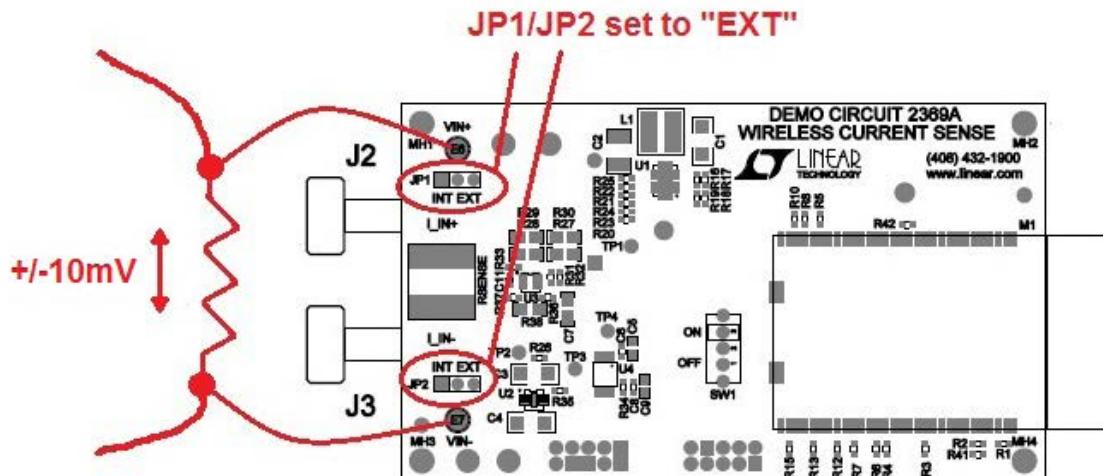

Figure 2. DC2369A Connections and Jumpers for External Sense Resistor
- Alternatively, DC2369A can be used to measure the voltage across an external sense resistor. In this case, set jumpers JP1 and JP2 to EXT, and connect the voltage to be measured to the turrets labeled  $V_{IN^+}$  and  $V_{IN^-}$ . The preconfigured DC2369A firmware and software will still assume a  $\pm 10mV$  full-scale input voltage and report that as a  $\pm 1A$  full-scale current. See Figure 2.